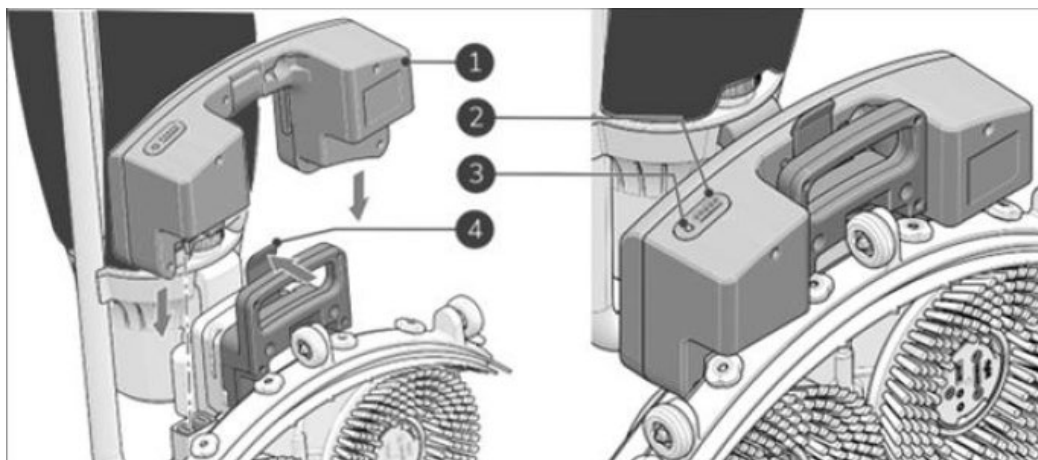

Fig. 5
2. Push the battery (Fig. 5, pos. 1) in the battery slot. A click indicates that the battery is locked in place by the retaining clip (Fig. 5, pos 4).
3. During operation, you can check the amount of power left (Fig. 5, pos 2) by pressing the power indicator (Fig. 5, pos 3) on the battery.